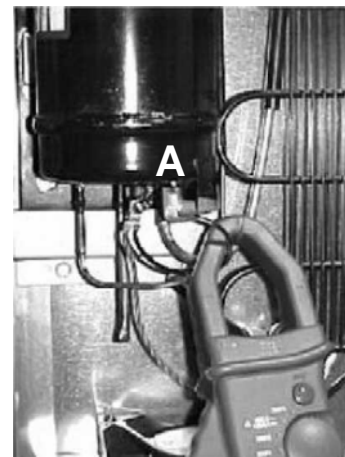

Figure 12
4. Take an Amp reading (1.6 – 3.3 Amps) at the black wire with the rubber boot (See Figure 12). If amperage is not within range, refer to **Procedure D** on page 6.